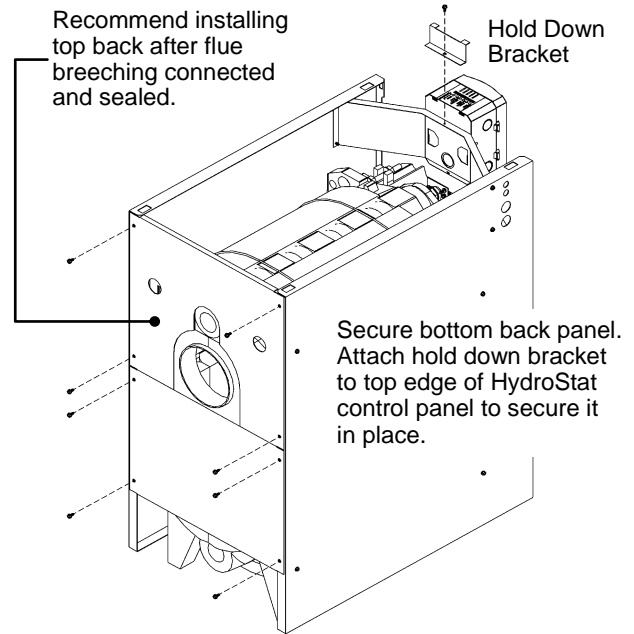

Figure 4-11 Install Ground Wire and Sensor
12. Insert sensor fully into the Electro-well™ or boiler overheating may occur (Figure 4-11). See “Danger” warning on page 11.